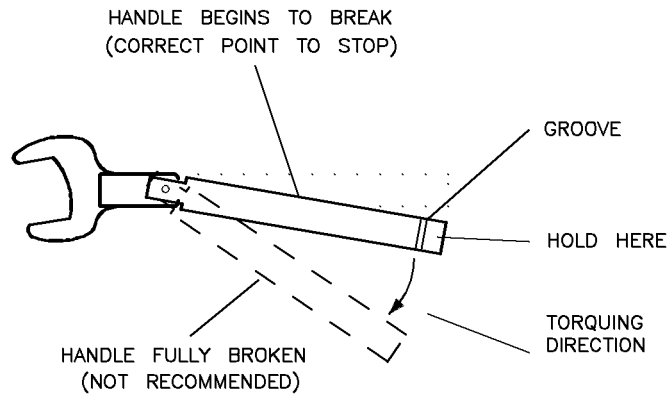

Figure 4-8. Using the Torque Wrench
3. Hold the torque wrench lightly, at the end of the handle only (beyond the groove). (see Figure 4-8).
5. Tighten the connection just to the torque wrench “break” point. The wrench handle gives way at its internal pivot point (see Figure 4-8). Do *not* tighten the connection further.